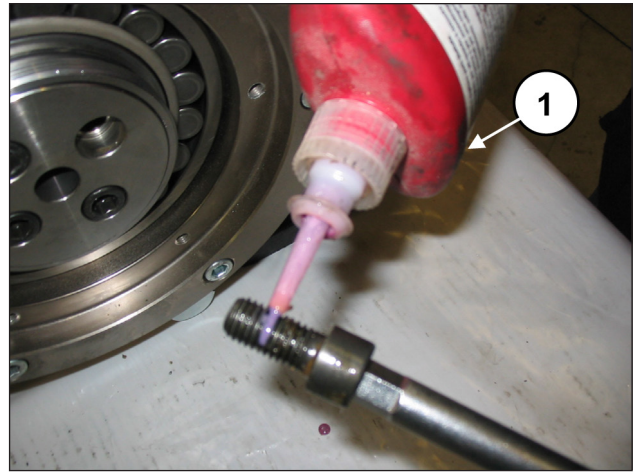

Fig. 87
Apply LOCTITE 243 to the threads of the M12x25 screws (pos. ①, Fig. 87).